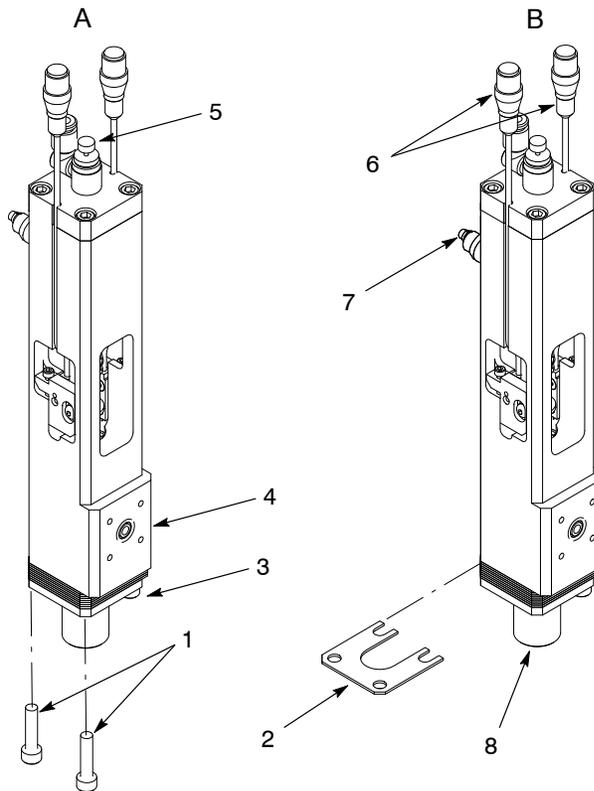

Figure 3 Adjusting Shot Size
See Figure 3 and follow the procedures listed in Table 3.
2. See Figure 3. Remove only the two screws (1) as shown on A. Loosen the other screws (3) just enough to add or remove the spacers (2).
3. Either add or remove spacers (2) as shown on B to obtain the desired shot size. Push the nozzle adapter (8) in by hand until it bottoms against the spacers (2).
4. Install the screws (1). Tighten the screws (1, 3) to 11 ft-lb (15 N•m).